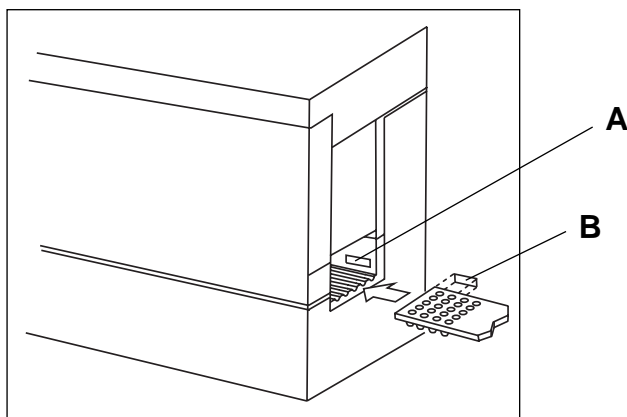

Figure 5.15
Trays must be inserted so that the bar code on the tray (B) aligns with the bar code reader window (A) (Figure 5.15). When properly inserted, the back end of a tray remains outside the load station and is pulled in as processing begins. **Do Not Force Trays Into Load Station.** Refer to assay timing for a suggested time interval between insertion of trays.